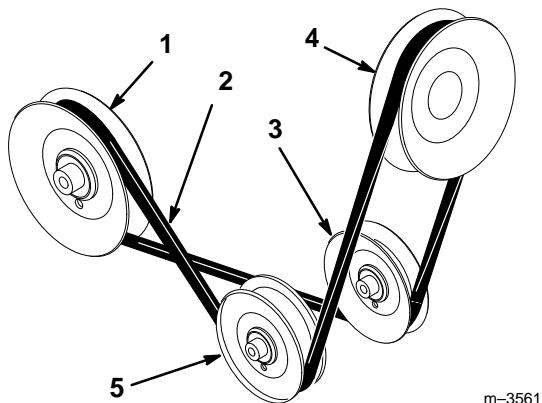
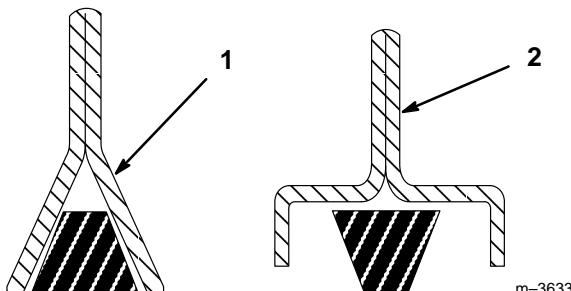

Figure 16
Figure 17
16. Position the end of the PTO belt (long belt) into the groove of the engine PTO pulley (Fig. 16), making sure it is also under the pulleys in the pulley box. The wide, flat surface of the belt needs to be in contact with the wide, flat surface of the backside idler pulley (Fig. 17). Additional belt slack can be obtained (if needed) by turning the belt tension adjustment knob.